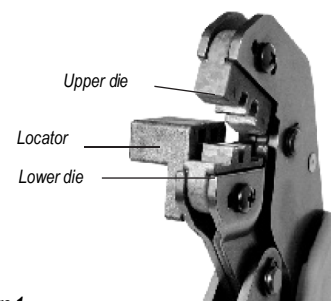
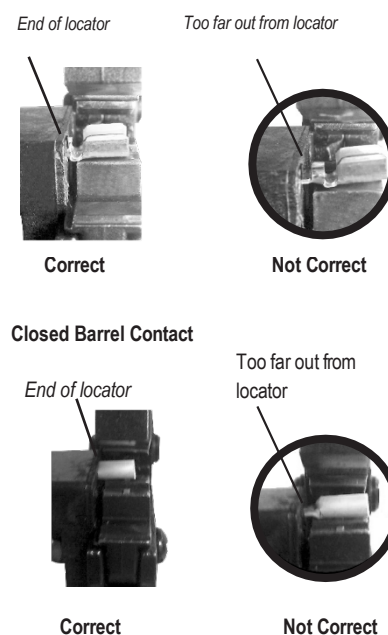

Figure 1
Figure 2
3. Place contact on lower die with the contact wings or crimp barrel crease facing towards the upper die (See Figure 1). Press the contact fully back into the locator until the wire stops or the crimp barrel end is slightly inside the locator (See Figure 2).